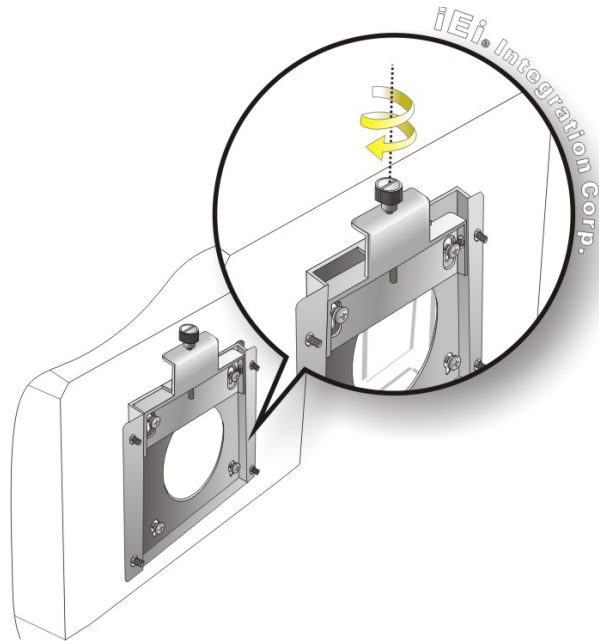

Figure 3-26: Secure the Panel PC
Step 9: Secure the panel PC by fastening the retention screw of the wall-mounting bracket (**Figure 3-26**).